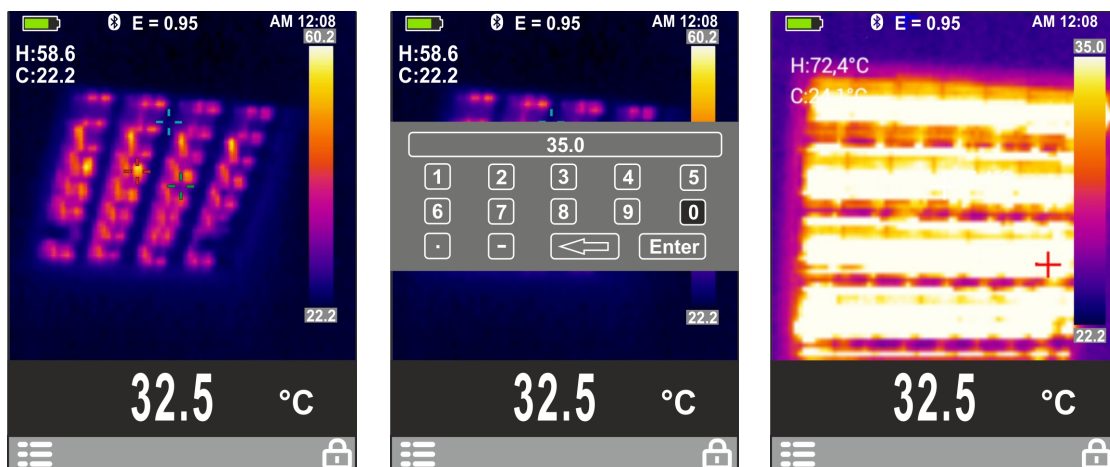

Fig. 21: Image display in Manual mode
1. Press key **ESC**/ to activate Manual mode. The temperature values stay fixed within a frame with grey background and symbol appears on the display (see Fig.21 – left side).
2. Press key **▲** to set the higher temperature value. The following screen (see Fig.21 – middle) appears on the display.
4. Select virtual key **←** to delete the value, press key **T** to define each value and select the virtual key **Enter** to confirm the value (e.g.: 35.0°C in Fig. 21 – middle) and quit setting section.
6. The display of the object in Manual mode is shown in Fig. 21 – right side.